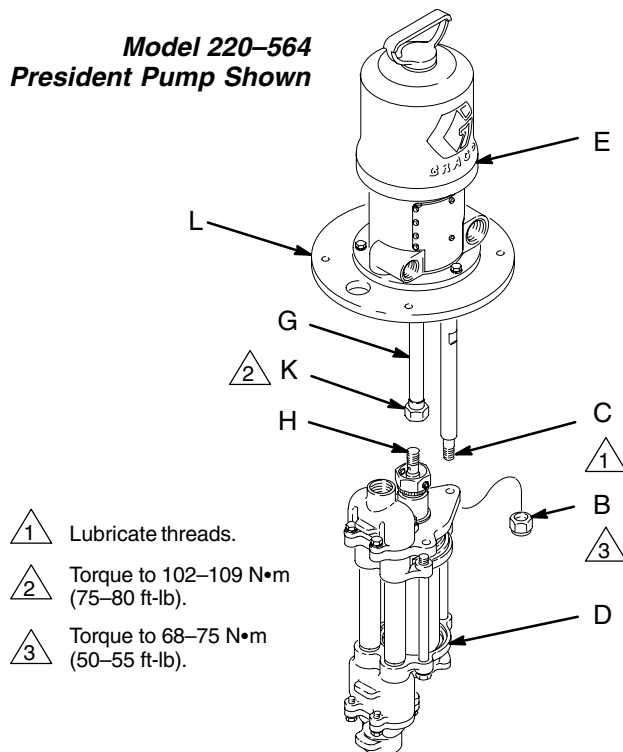

Fig. 6
Unscrew the coupling nut (K) of the coupling rod (G) from the piston rod (H). Unscrew the locknuts (B) from the tie rods (C). Pull the displacement pump (D) off the motor (E). See Fig. 6.
adapter plate (L) as shown in Fig. 6. Position the displacement pump (D) on the tie rods (C). Lubricate the threads of the tie rods. Screw the locknuts (B) onto the tie rods loosely. Screw the coupling nut (K) onto the piston rod (H) and torque to 102–109 N•m (75–80 ft-lb). Torque the tie rod locknuts to 68–75 N•m (50–55 ft-lb).